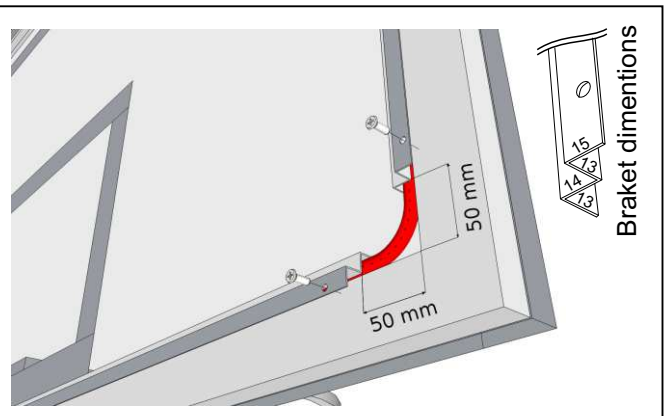

Fig.2 Position of the Perimeter Light
- there is about 5 cm of space left between the brackets at the corners of the backboard, to ensure that the Perimeter Lights curve properly (Fig. 2).